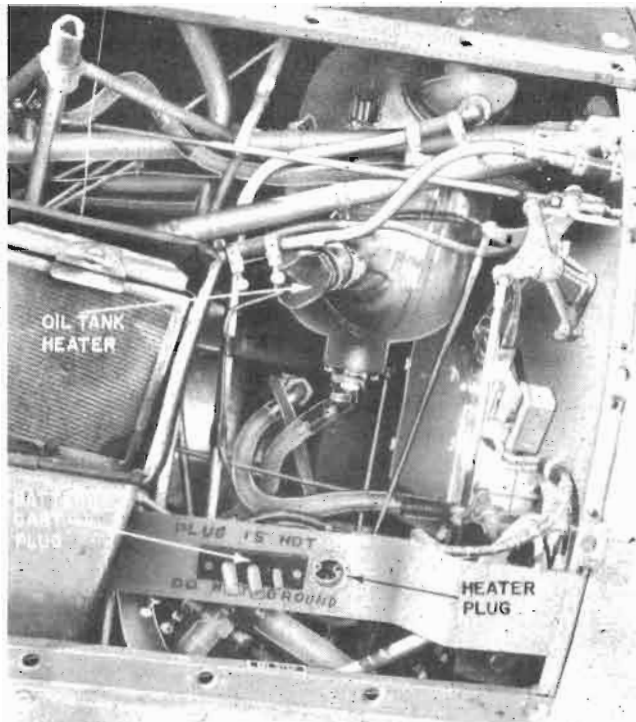

Figure 402 — Tank Immersion Heater and Battery External Plug
d. OIL TANK IMMERSION HEATER.—(See figure 402.)—For cold weather operation of the airplane an immersion oil heater is installed in the oil tank. The purpose of this heater is to prevent the congealing of oil in the tank when the airplane is not in use, but is held in alert against any anticipated or emergency starting of the engine. The heater is provided with an external electrical plug, which may be reached by opening the access door marked for this purpose and located at the left side engine accessory cowl panel. Any available electrical power of a utility nature may be used. If the heater is to be used, it is put into operation as soon as possible after stopping the engine, and is left in operation until the engine is started again.